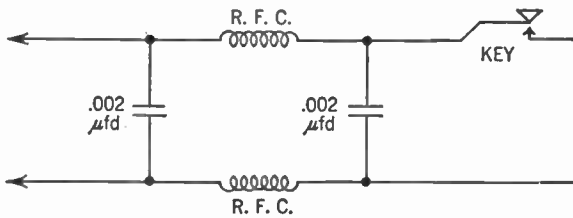

Figure 463. A filter used to eliminate key clicks.
*Key clicks* occur because of sudden surges of electrical energy that may accompany the opening and closing of the key. There are numerous ways of eliminating them. Figure 463 shows one